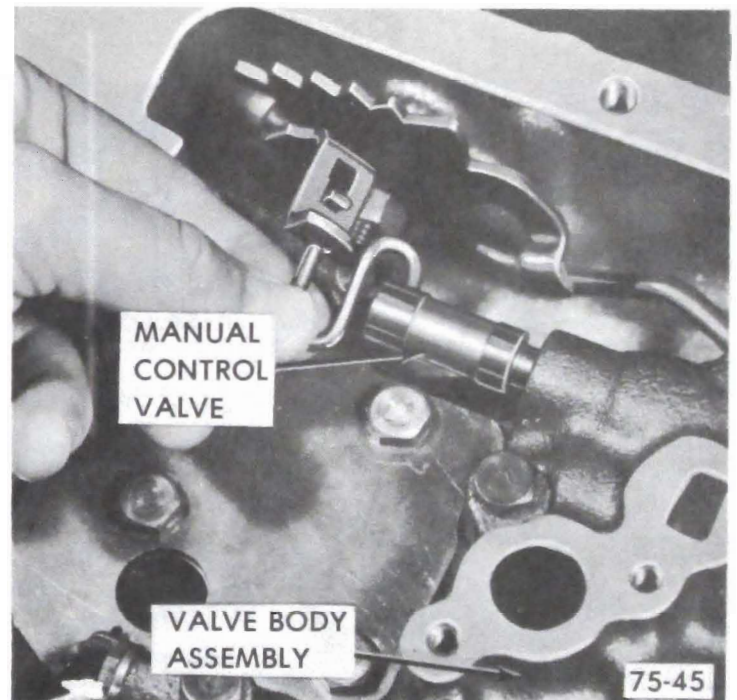

Figure 75-275
5. Install valve body. Connect manual control valve link to range selector inner level. Torque bolts in random sequence to 13 lb.ft. leaving bolt loose for detent roller and spring assembly. See Figure 75-275.